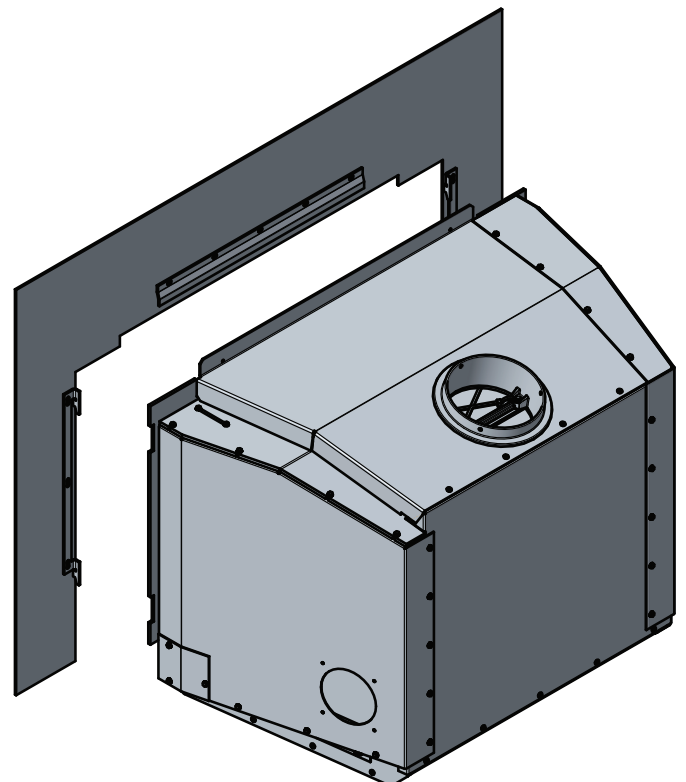

Figure 21.3
4. Lift surround to front of appliance (**Figure 21.3**).